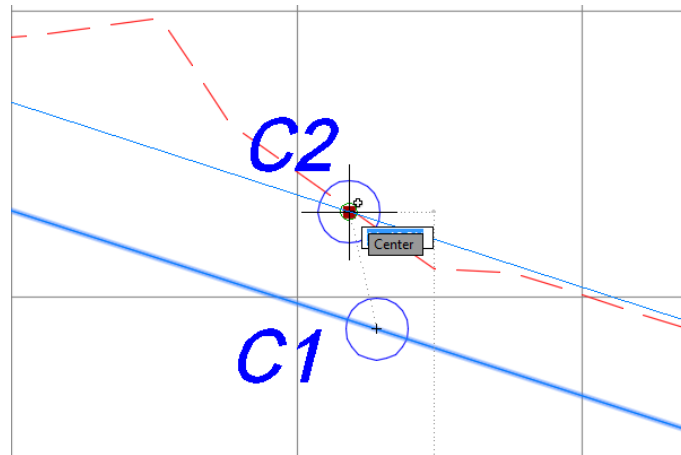

FIGURE 7.5 Moving a tangent midpoint grip
4. Click the square grip at the center of circle C1, and move it to the center of circle C2, as shown in Figure 7.5.